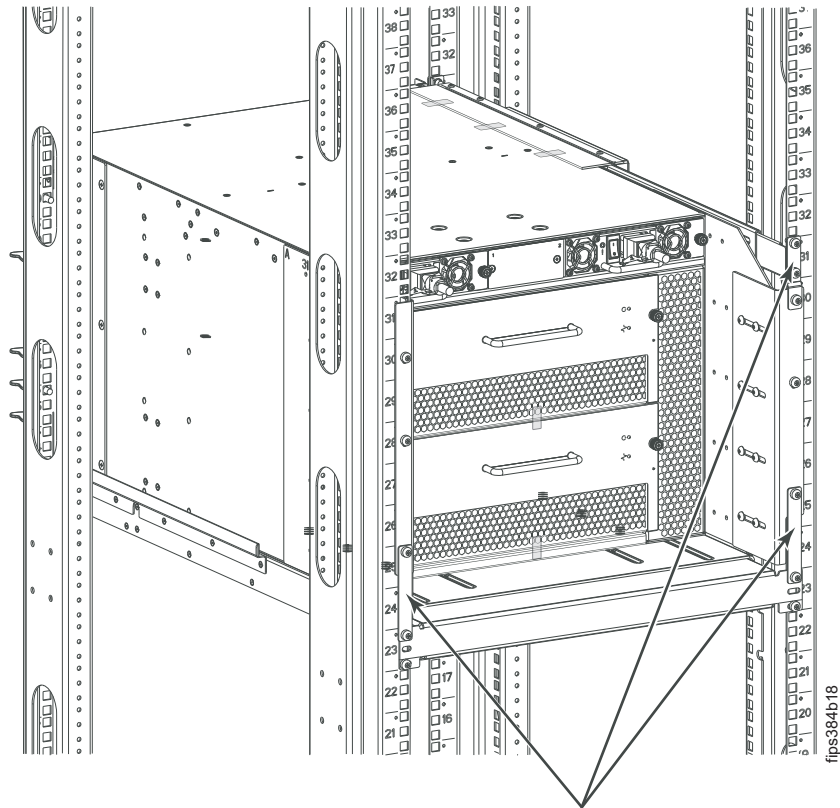

Figure 24. Three 2499-192 rackmount FIPS brackets installed on non-port side
2. Use two of the rackmount screws that you removed in step 1 to install the lower left FIPS bracket between the chassis rackmount flange and exhaust kit shelf flange, as shown in Figure 24 on page 23, then tighten securely. The straight bracket is the lower FIPS bracket.
3. Use three of the rackmount screws that you removed in step 1 to install the upper right FIPS bracket between the chassis rackmount flange and top rail flange, as shown in Figure 24, then tighten securely. The bracket with the slight bend is the upper FIPS bracket.
4. Use the remaining two rackmount screws that you removed in step 1 to install the lower right FIPS bracket between the chassis rackmount flange and shelf flange, as shown in Figure 24, then tighten securely. The straight bracket is the lower FIPS bracket.